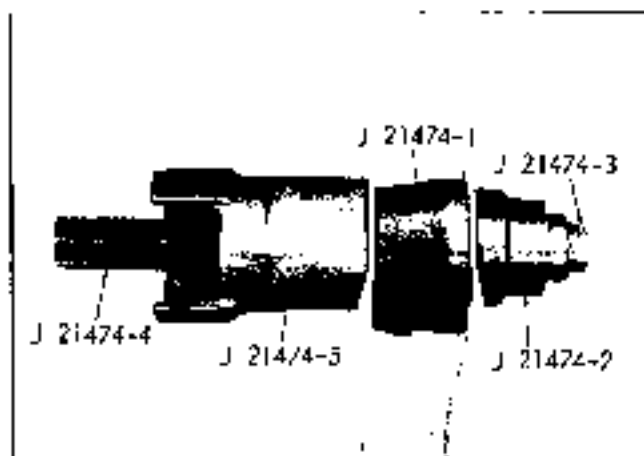

Fig. 4-8 Installing Rear Control Arm Bushings - Pontiac and Tempest
3. Install new bushing in control arm by arranging tools as shown in Fig. 4-8 and press into place. Use care to keep bushing properly aligned. Lightly lubricate bushing to increase ease of installation.
3. Replace, using components of tool J 21474 as shown in Fig. 4-8.